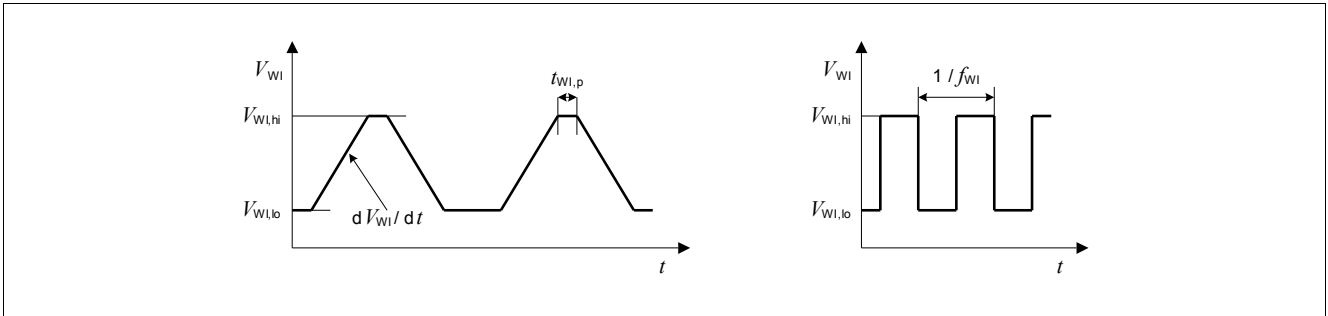

Figure 9 Test Pulses Watchdog Input WI
The watchdog is triggered by an positive edge at the watchdog input “WI”. The signal is filtered by a bandpass filter and therefore its amplitude and slope has to comply with the specification Table “Watchdog Input” on Page 25 to Table “Watchdog Input Signal Slew Rate” on Page 25. For details on the test pulse applied, see Figure 9.
3) For details on the test pulse applied, see Figure 9.